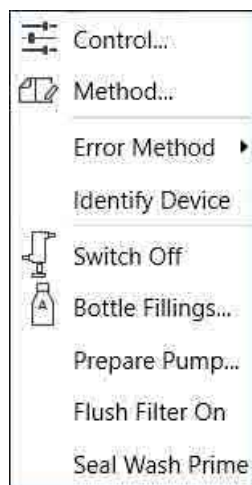

Figure 12: Context Menu
- Change the seal wash solvent and trigger the Seal Wash Prime function from the context menu (see Figure 12 on page 40).